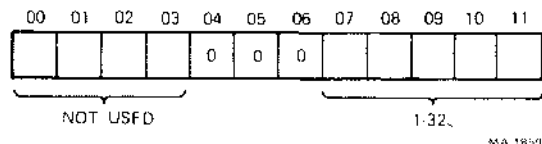

Figure 4-7 RX2SA Format (RX8E/RX28)
4.1.3.4 RX2SA – RX Sector Address (Figure 4-7) – This register is loaded to indicate on which of the 26 (1–26) sectors a given function is to operate. It can be addressed only under the protocol of the function in progress (Paragraph 4.1.4). Bits 0–3 are unused and are ignored by the control.